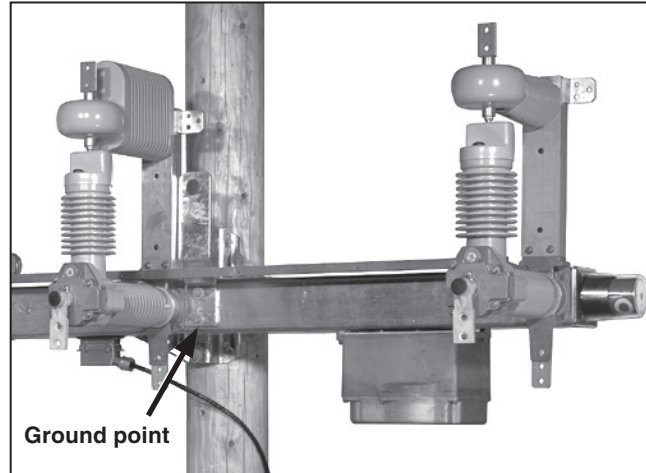

Figure 14. Grounding the switch (vertical mounting configuration shown).
STEP 11. Ground the switch by solidly connecting the end of number 2 AWG copper wire (or two number 6 AWG copper wires or copper wires of equivalent cross-sectional area) to the switch mounting bracket. See Figure 14. Grounding lug is to be provided by others. Connect the other ends of the wires to a suitable earth ground at the base of the pole and bond them to the system neutral, if present. Proper precautions must be taken to ensure the local earth ground cannot be severed or removed.